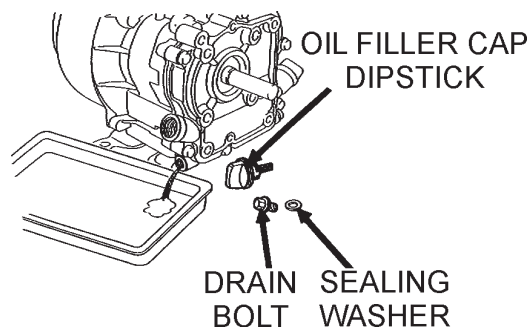

Figure 22. Engine Oil (Draining)
- Drain the engine oil when the oil is **warm** as shown in Figure 22.